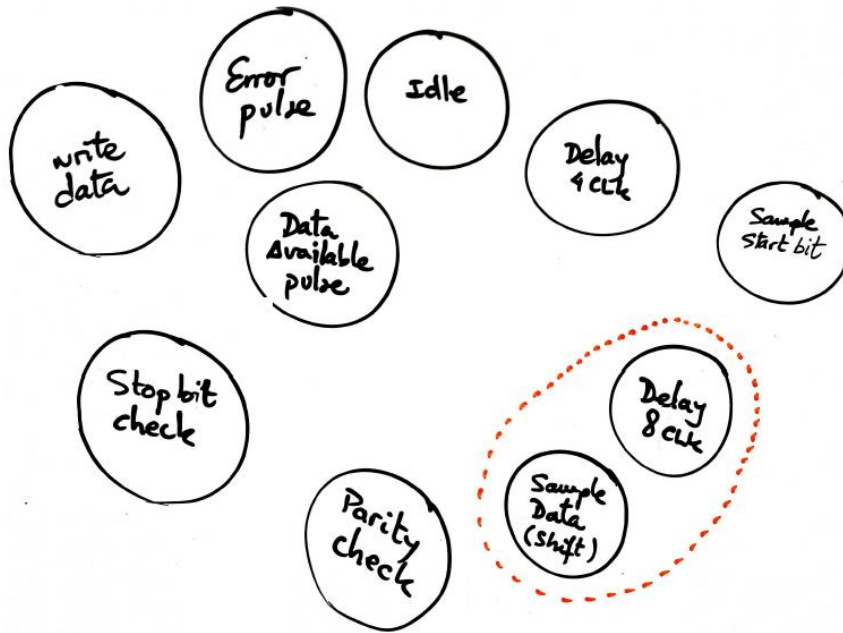

Fig. 5
Fig. 5 gives you an idea of possible states for the control unit of the dedicated processor.
- Invent a state diagram for the *Receiver's* control unit using states like in Fig. 5 or any other that you may find necessary. Justify your signals, state transitions and loops. The state diagram also includes the outputs (external outputs and control signals) at each state in parenthesis. (1p)